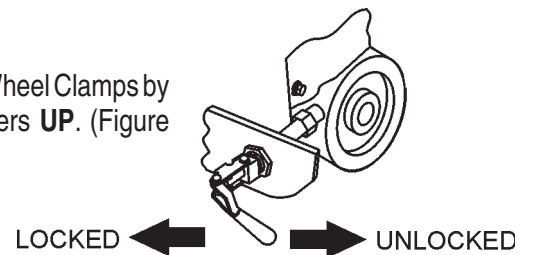

Figure 37. Wheel Clamp
2. Release Wheel Clamps by pulling levers **UP**. (Figure 37)
- Push the Wheel Clamp Levers downward to apply braking pressure to the wheels (Figure 37).
6. Slowly lower the diamond blade onto the cut line by cranking the **Raise/Lower handleCLOCKWISE** (Figure 37). When the handle can no longer be turned, the blade will be at its full rated depth.
1. Raise the blade out of the cut by cranking the **Raise/Lower handle COUNTER-CLOCKWISE** (Figure 37). Raise the blade high enough out of the cut to clear the surface and allow the saw to be maneuvered.